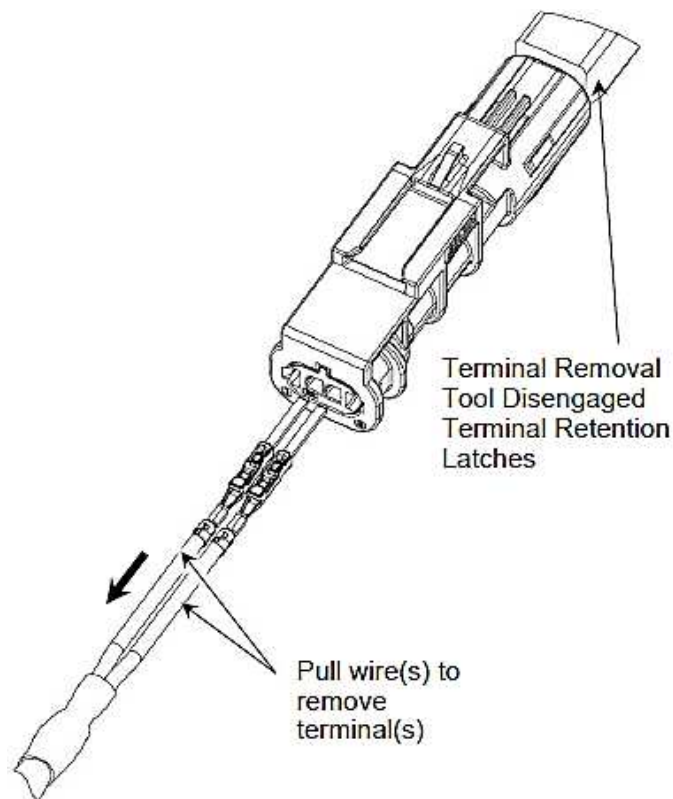

Figure 18
- iii. With the terminal latches disengaged, use the wire(s) to pull the terminal(s) from the connector. See Figure 18.